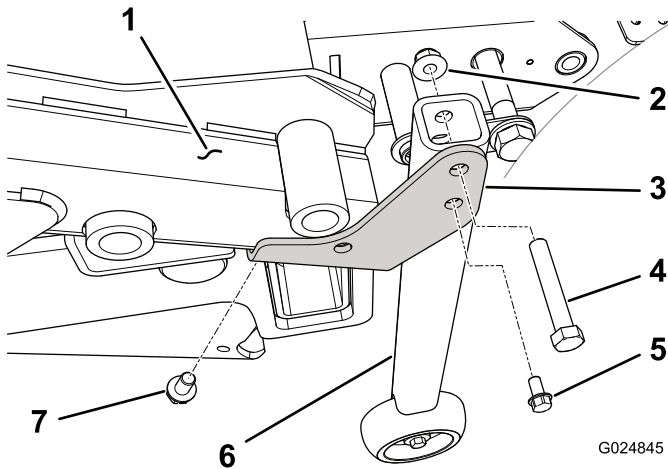

Figure 34
- On traction units that have a serial number greater than 313000001, install a conversion bracket (right or left hand) to the under side of the appropriate rear corner of the deck frame with a 3/8 x 5/8 inch self-tapping screw (Figure 34). The bracket is to point toward the end of the rear frame.
- Install the vertical tube support assembly to the conversion bracket (right or left hand) on each corner of the deck frame with a 3/8 x 2-1/4 inch screw and 3/8 inch flange nut (Figure 34).